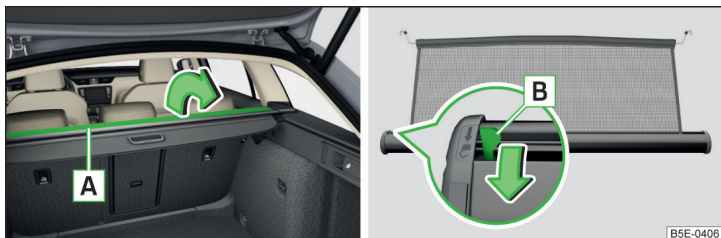

Fig. 122 Open part of the roll-up luggage compartment cover / release lever
- Fold out part of the roll-up luggage compartment cover **A** in the direction of the arrow » Fig. 122.
- Fold back part of the roll-up luggage compartment cover **A** in the opposite direction of the arrow » Fig. 122.
If the net partition blocks when pulling it out of the housing, push the release lever **B** in the direction of the arrow » Fig. 122.